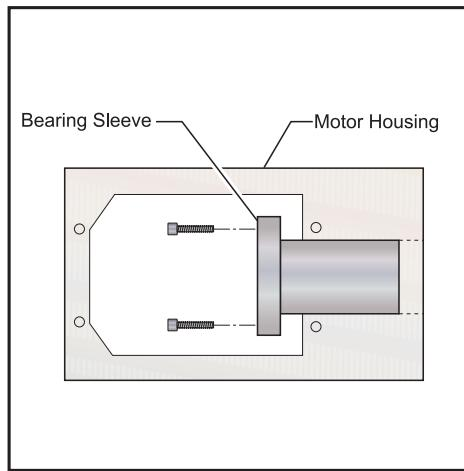

Figure 3.10-1. Bearing sleeve mounting location.
10. Loosen the six SHCS and remove the bearing sleeve from the motor mount (Fig. 3.10-1). Push on the opposite end of the lead screw to loosen.